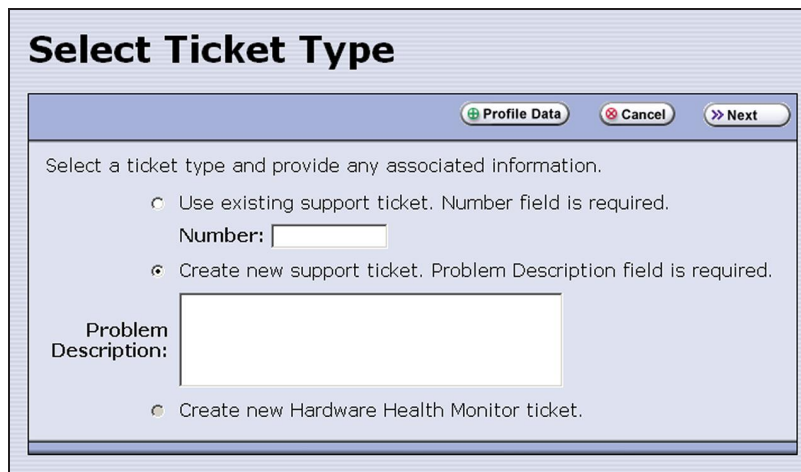

Figure 209 The Select Ticket Type screen.
7. In the Select Ticket Type screen (Figure 209 on page 375), type a detailed description of the issue in the **Problem Description** field, including what happened just before the failure occurred.
2. Follow the instructions in steps 1 through 5 in Create New Support Tickets on page 374 to reach the Select Ticket Type screen (see Figure 209 on page 375).